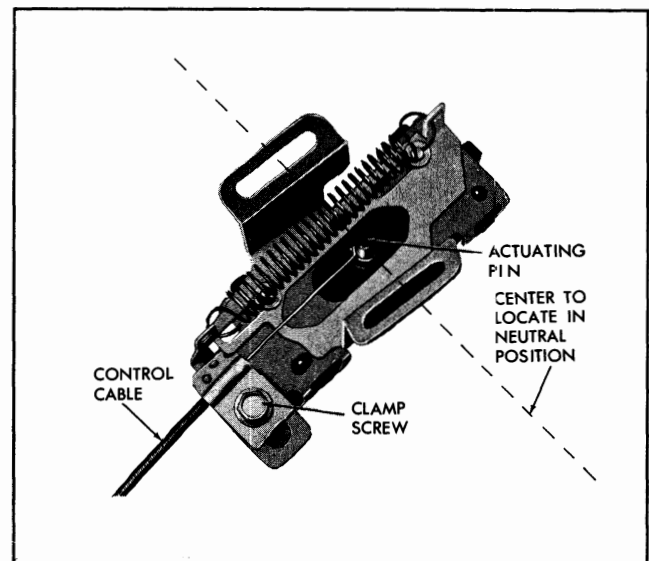

Fig. 11-72 Directional Signal Switch-Tilt Wheel
2. Loosen screw (Fig 11-72) and remove control cable assembly from switch.
3. Move carrier in switch to neutral position (Fig. 11-72).